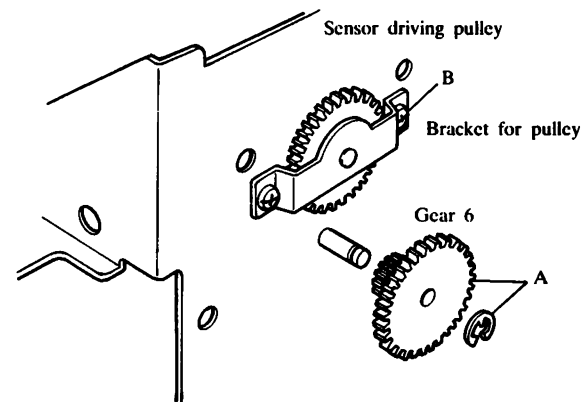

Fig. 36-3
- (1) Mount the Sensor driving pulley and the Bracket to the Frame and fix them by the two screws (3×5). (Refer to B in Fig. 36-3)
- (3) Please ensure that the Ball bearing for the driving shaft is in the right place in the Head frame, then mount the Gear 6 and put the Snap ring E3 on the shaft. (Refer to A in Fig. 36-3)